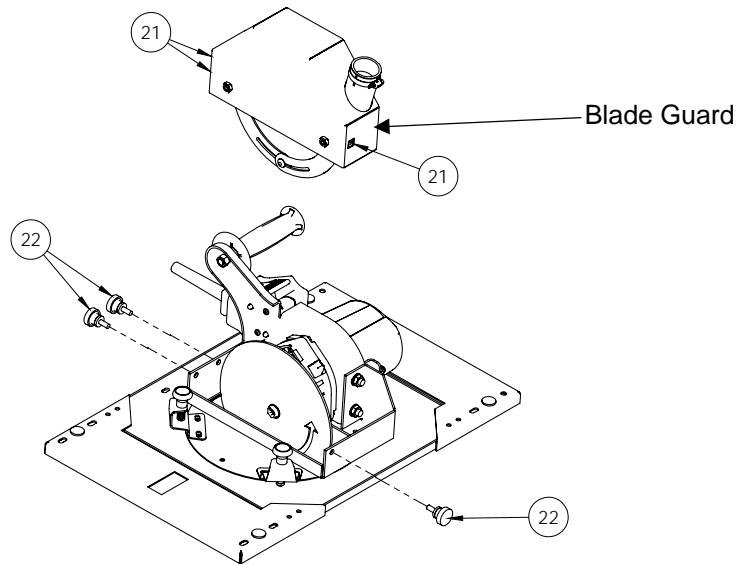

Figure 39: Removing/Installing the Blade Guard (Models SR5 & SR5A)
The Blade Guard (Dust Bonnet) (Fig. 39 & 40, #21) is attached to the carriage with torque knobs (Fig. 39 & 40, #22). Remove the torque knobs to remove the guard. Be sure to leave the rubber washers on the torque knobs to prevent the knobs from slipping.
Always install the blade guard before operating the saw (Fig. 39 & 40, #21).
3. Remove the blade guard, see **“Removing and Installing the Blade Guard”** and (Fig. 39 & 40, #21).
1. Remove the blade guard (Pg. 37, Fig. 39 & 40) so the blade is exposed.